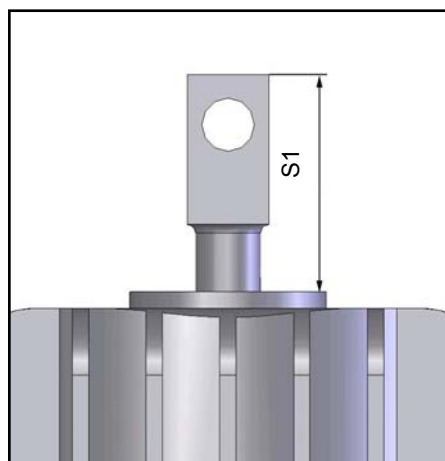

Fig. 4:
- Turn Nut (2.14) **clockwise** until the piston rod of the thruster (Fig. 4) has reached the necessary value for S_1 (table 1).
- Turn Nut (2.14) **counterclockwise** until the piston rod of the thruster (Fig. 4) has reached the necessary value for S_1 (table 1).